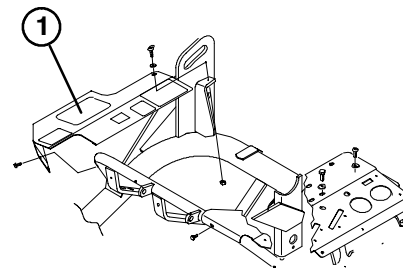

Figure 3
3. Remove right shield (Fig. 3).